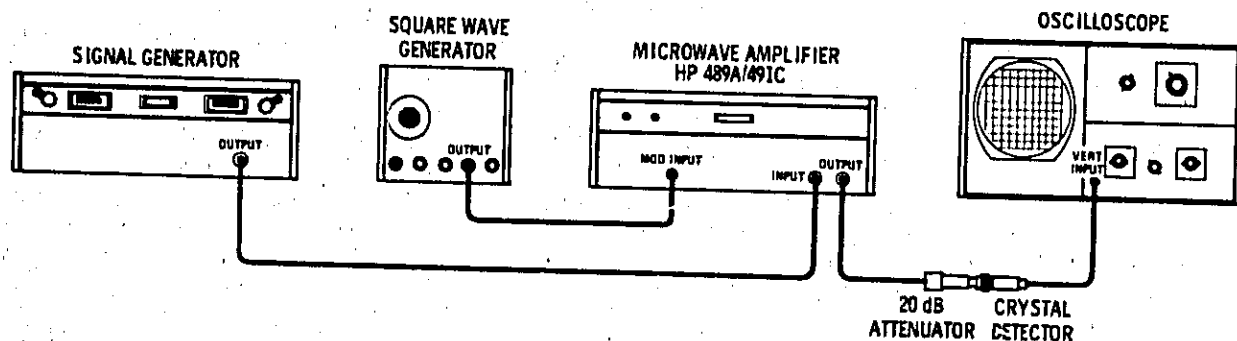

Figure 4-3. Modulator Sensitivity vs. Frequency Response Test Setup
1. Connect equipment as shown in Figure 4-3 and set the controls as follows: